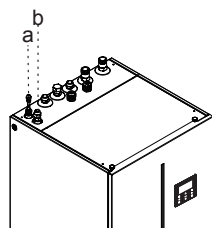

Fig.5-2
- If the indoor unit is matched with outdoor unit (6kW), the transfer 9.52-6.35 (Refer to the table in Page 8) should be mounted on the refrigerant liquid connection of indoor unit (Refer to Fig.5-2); The transfer is not used in other types of outdoor unit (8/10/12/16kW).